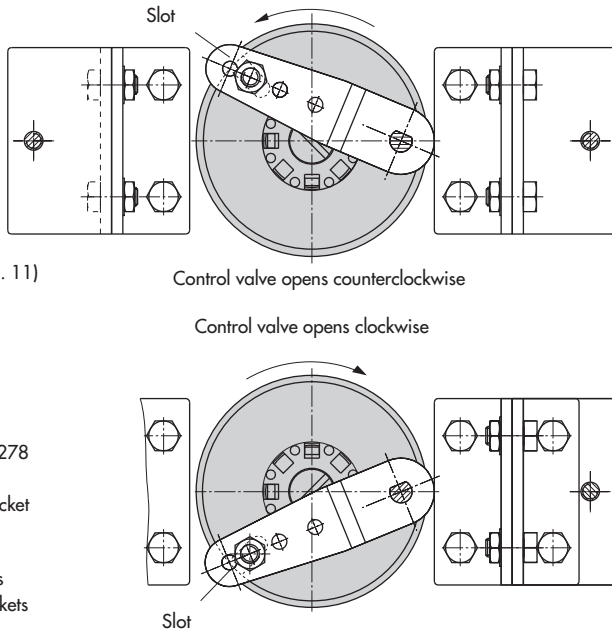

Fig. 12 · Attachment to rotary actuators
1. Place follower clamp (3) on the slotted actuator shaft or the adapter (5).
2. Place coupling wheel (4) with flat side facing the actuator on the follower clamp (3). Refer to Fig. 12 to align slot so that it matches the direction of rotation when the valve is in its closed position.
4. Screw the bottom pair of brackets (10.1) with the bends pointing either to the inside or to the outside (depending on the actuator size) to the actuator case. Position top pair of brackets (10) and screw tight.
5. Mount connecting plate (6) or pressure gauge bracket (7) with pressure gauges
6. Unscrew the standard follower pin (2) from the positioner's lever **M** (1). Use the metal follower pin (Ø5) included in the mounting kit and screw tight into the bore for pin position **90°**.
7. Place positioner on the top pair of brackets (10) and screw tight. Considering the actuator's direction of rotation, adjust lever (1) so that it engages in the slot of the coupling wheel (4) with its follower pin (Fig. 12). It must be guaranteed that the lever (1) is parallel to the long side of the positioner when the actuator is at half its angle of rotation.